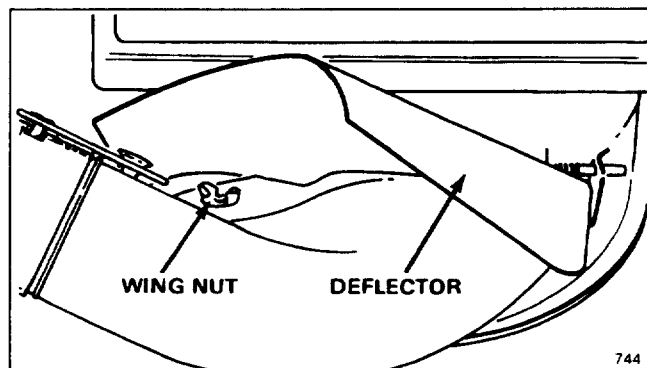

Figure 5
4. Slide chute assembly under deflector inserting front of chute into mower housing V-bracket and rear of chute onto mounting pin (Fig. 5).